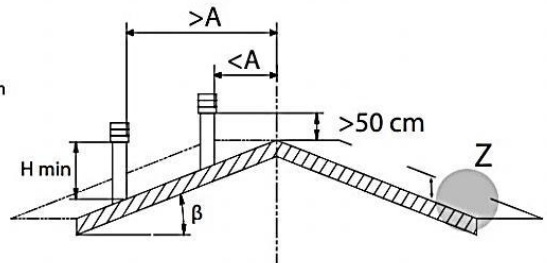

Figure 15
A – see *figure 15* and *chapter 4.5.4.*
The chimney must be **at least 0,5 meters remote above the roof ridge** (see *figure 15*).
- installed to enable proper dispersion and dilution of combustion products outside the reflux zone (backflow) because the counter pressure occurs here. Therefore, it is necessary to adhere to limitations listed in figure 15,